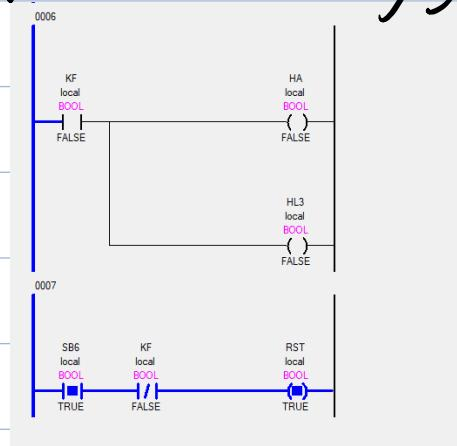

Fig. 12
⑥ When the fault is fixed, set SB6 (Reset switch) as TRUE to reset the system as shown in figure 12.